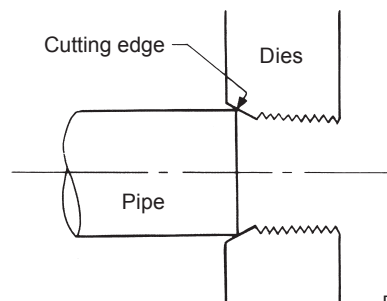

Fig. 32
- Care when the dies come into contact with the pipe (Fig. 32)